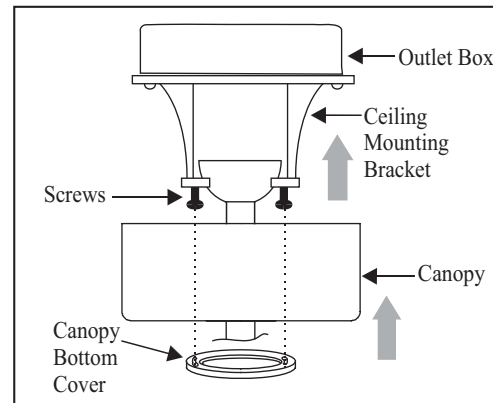

Figure 12
2. Slide the canopy up to ceiling and over the 2 screws on the hanger bracket. Rotate canopy clockwise. Next, while holding the canopy with one hand, slide the canopy cover over the screws and rotate clockwise until tight. **Note:** adjust the canopy screws as necessary until the canopy and canopy cover are snug. (Fig. 12)